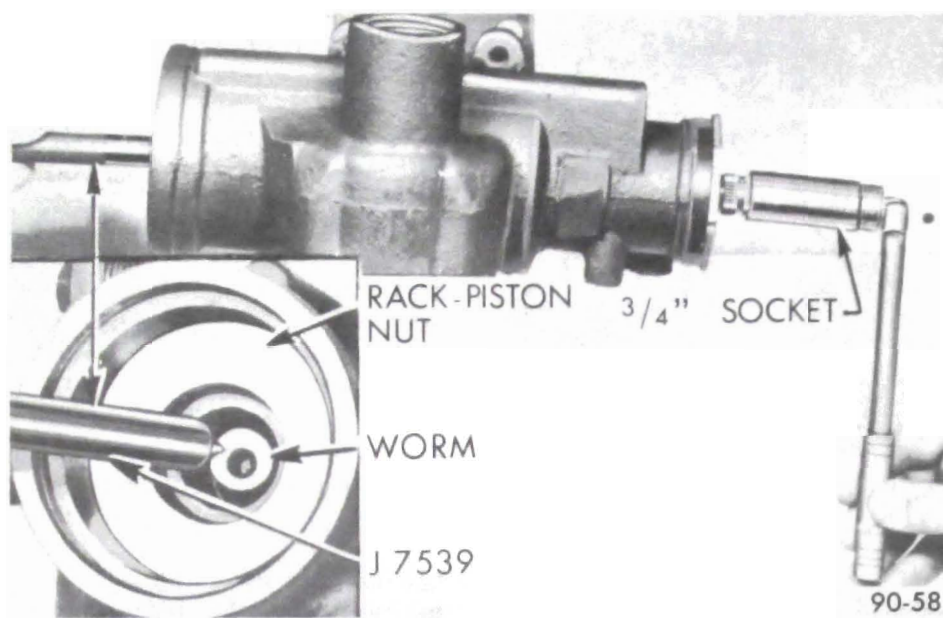

Figure 90-69 Removing Rack-Piston Nut
7. Insert ball retaining tool J-7539 in end of worm. See Figure 90-69. Turn stub shaft so that rack-piston nut will go onto the tool and remove rack-piston nut from gear housing. Keep ball retaining tool completely through rack-piston nut to prevent balls from falling out.